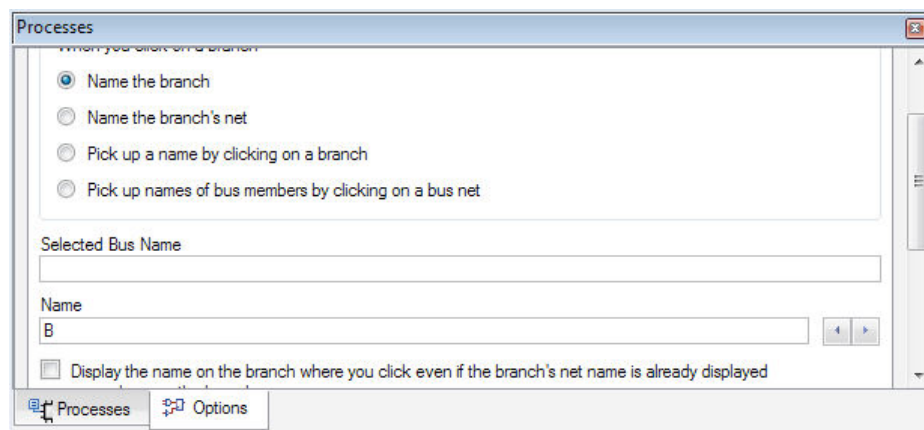

Figure 4. Processes Panel
- Label each I/O wire by **Add → Net Name**. In the **Processes** panel and **Options** window on the left side, type a name for the wire in **Name** box, then click on the end of the target wire. The Process panel is as shown in Figure 4.